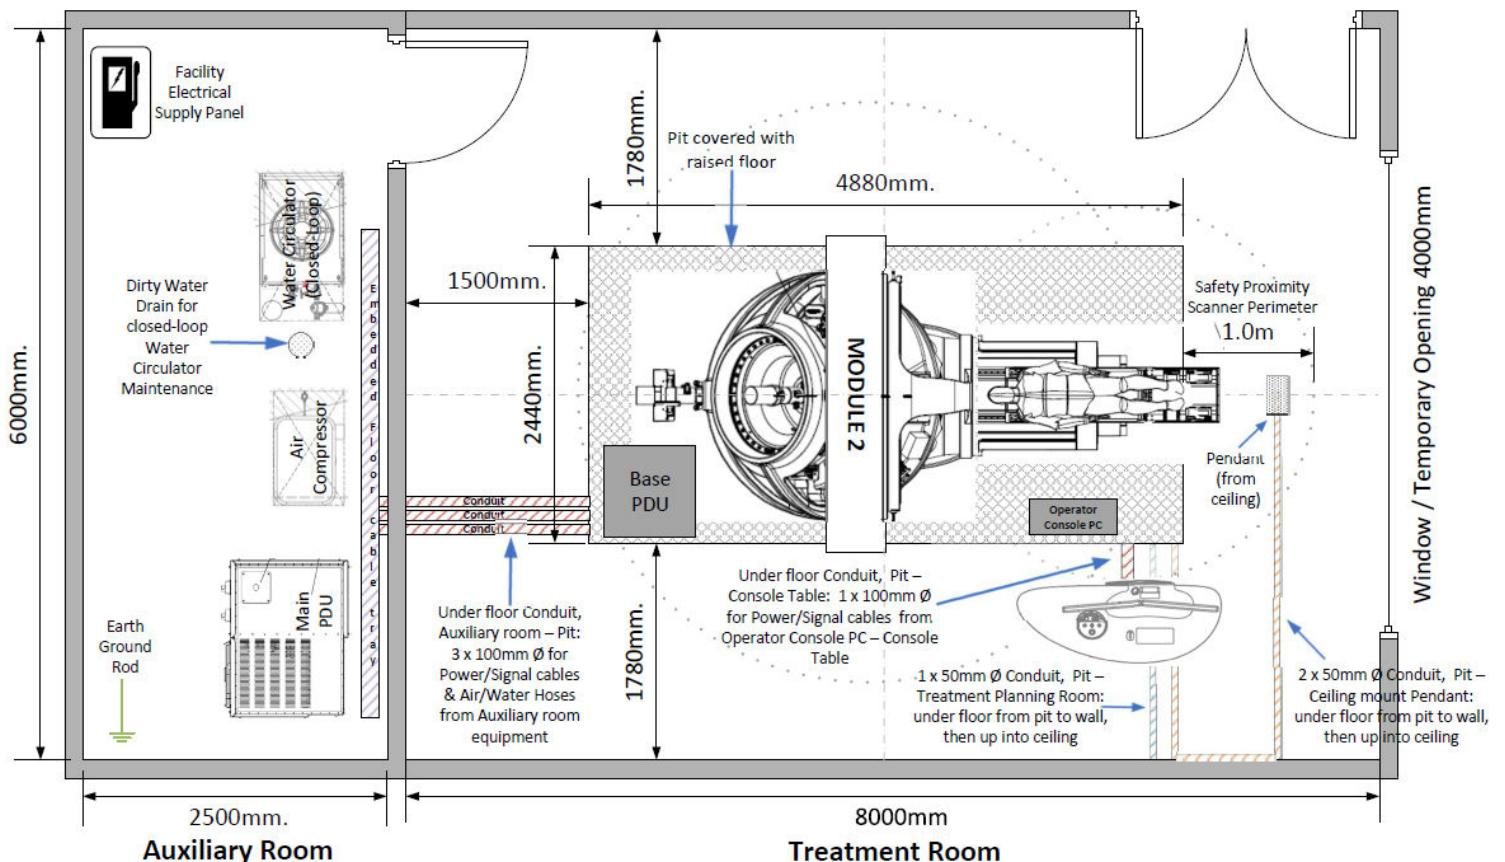

Figure 1 - Typical Room Layout
- **Figure 1** shows a typical layout for the Treatment Room and Auxiliary Room.
- The Auxiliary Room is located adjacent to the Treatment Room (see Figure 1). Three (3) 100mm (4") conduits need to be installed under the floor between the Auxiliary Room and the Treatment Room Pit to run the Power & Signal cables, Air and water hose interconnections to the ZAP-X system.
- The Treatment Room must be at ground level with access to a minimum 3.7 m (12' 0") wide x 3.0 m (9' 10") high exterior building opening for installation of the ZAP-X system. The opening may be temporary for the installation phase. (Recommended width of opening 4.0m wide x 3.0m high for ease of access for transport modules, additionally it is recommended that the opening is aligned with the pit center line) See **Figure 1 - Typical Room Layout**.